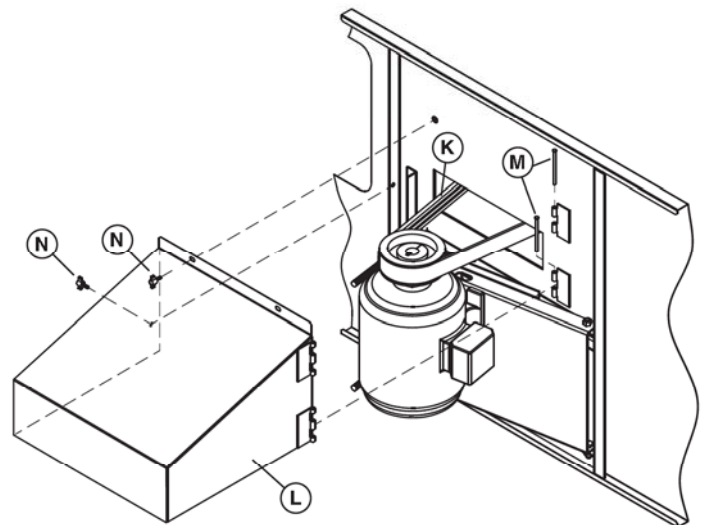

Figure 29 - Motor Guard and Powerband Belt Installation
7. Install Powerband belt K (Figure 29) around fan sheave and motor sheave. Tighten belt by adjusting nuts on "J" bolts. Do not over tighten the belts. The center of the belt should deflect approximately 3/4" with moderate hand pressure.
10. To install Motor Guard L, match up hinges and install hinge pins M. (See Figure 29.)
11. Close Motor Guard and install (2) wing bolts N.